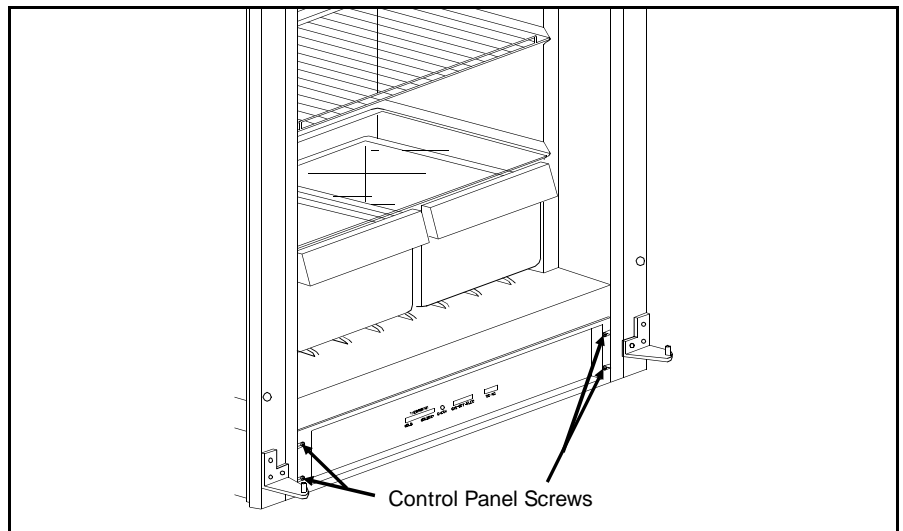

Figure 4.53 Access to PC Board
4. Remove the four (4) control panel screws illustrated in Figure 4.53.